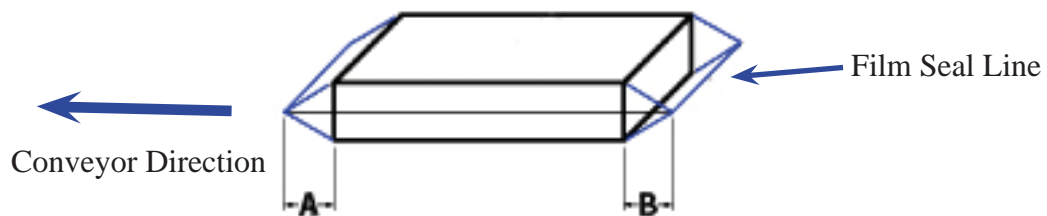

Figure 3-9 Sealing and Cutting Adjustment
13. Adjust the sealing and cutting process as necessary. (Figure 3-9).
14. Adjust of the front extra film length (Length A of Figure 3-9), to the best length approximately $\frac{1}{3} H$. The adjustment procedure is as follows:
15. The best rear extra film length (B of Figure 3-9), is $1/2 H$ between the product and the rear seal. Adjust the conveyor time setting on switch #13 in Figure 3-1 to increase the film length at the rear of the package.